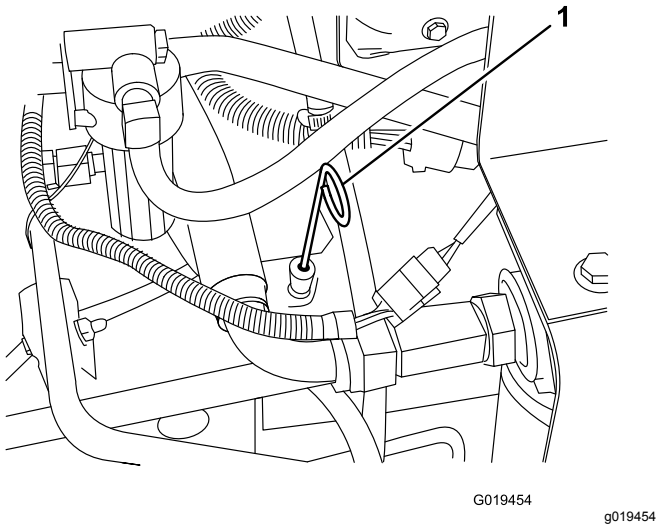

Figure 49
3. Remove the dipstick (Figure 49), wipe it clean, install the dipstick into the tube, and pull it out again.